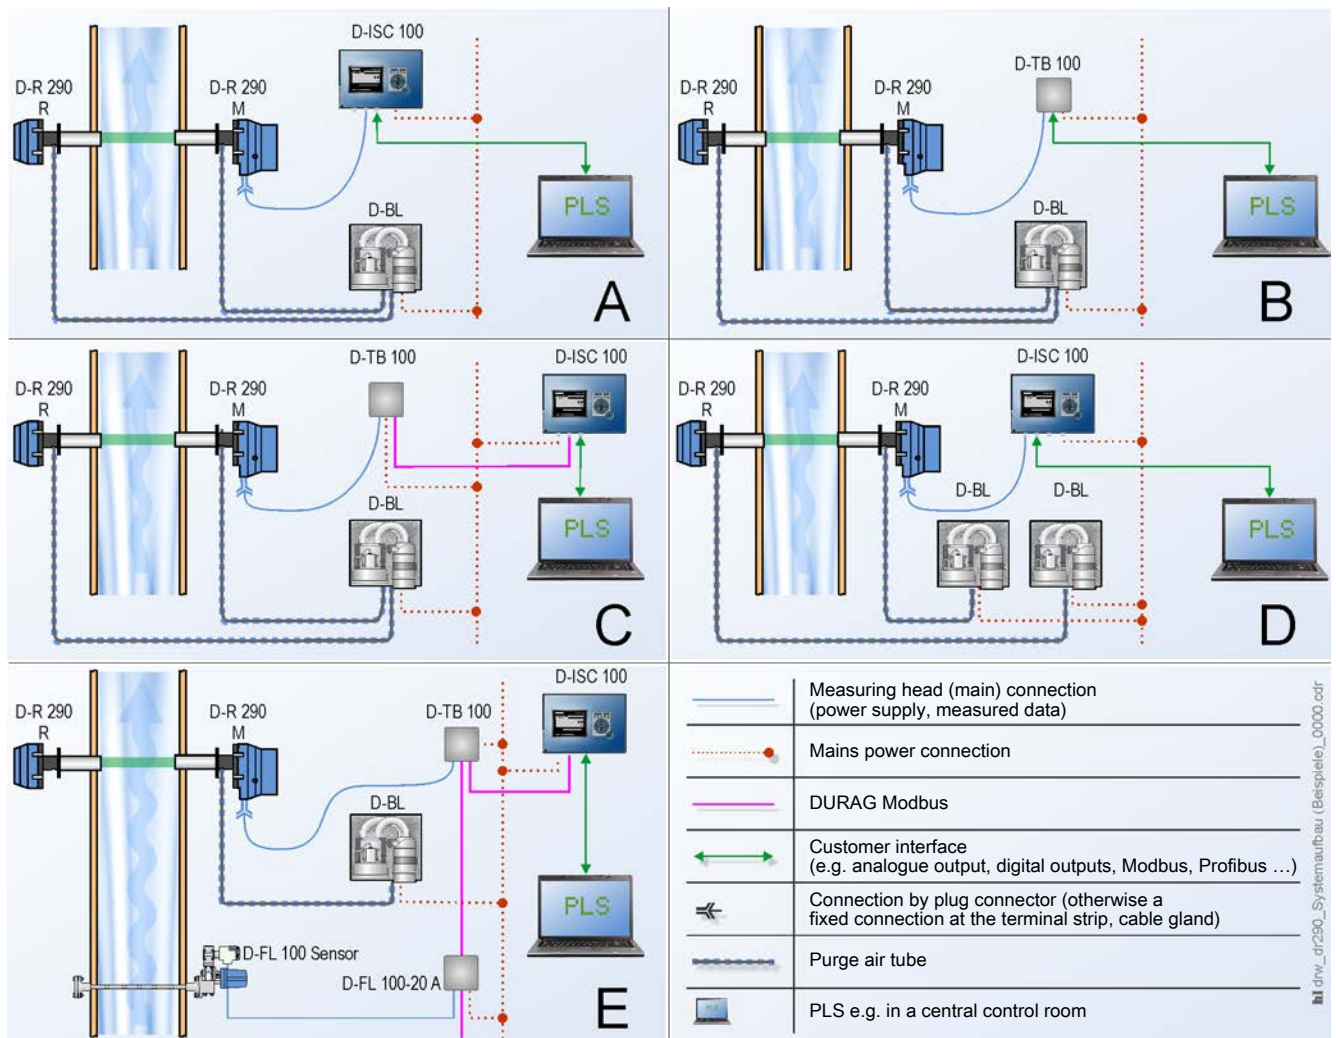

Fig. 5.1: System layout (example)
- optional: a second blower (D-BL ...; e.g. for units with pitch circle diameter Ø 150 mm), see Fig. 5.1 D
- a D-ISC 100 universal control and display unit, see Fig. 5.1 A, B, D, E
- optional: a supply unit (terminal box D-TB ...) for power supply to the measuring head and as a data interface, see Fig. 5.1 B, C, E
Examples for the various system configurations can be found in Fig. 5.1.
The technical requirements posed by various types of boilers or dust extraction plants, stacks flue gas flues are very varied. The wall thickness and flue stack diameter can affect the choice of system variants. Refer to the sections 4.3.1 Possible system configurations [▶ 51] and Fig. 5.1.